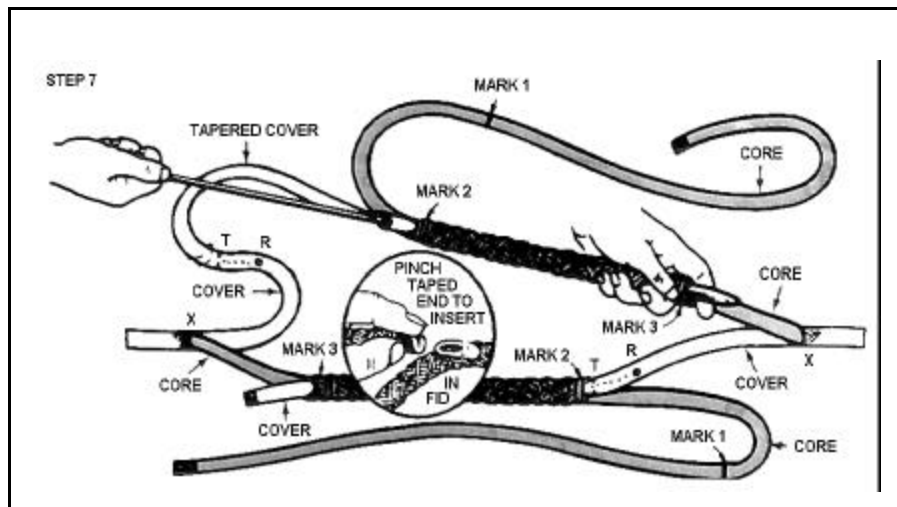

Figure 12-72. Putting the Cover Inside Core
- STEP 7 -- Putting the cover inside core.** Insert fid into one core at Mark 2 and bring it out at Mark 3. Add extra tape to tapered cover end and jam it tightly into hollow end of fid (see Figure 12-72 insert). Hold core lightly at Mark 3, place pusher point into tapered end, pushing fid with cover in it from Mark 2 out at Mark 3. When using wire fid, attach fid to cover. Then pull fid through from Mark 2 to Mark 3. Pull cover tail through core until Mark T on cover meets Mark 2 on core. Insert other cover into core in same manner.